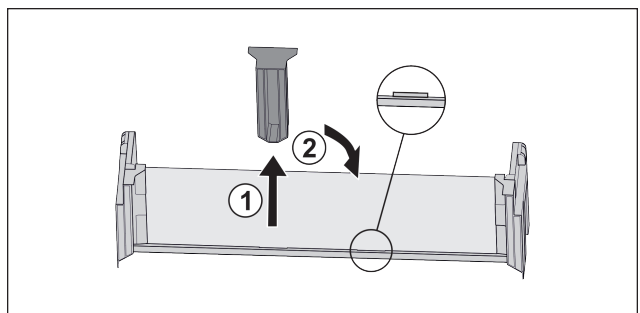

Fig. 79
► Pull off the middle holder Fig. 79 (1).
► Insert the middle holder in the second position Fig. 79 (2).